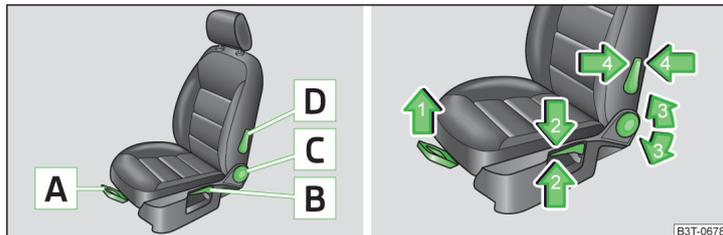

Fig. 66 Controls / setting
- Pull the lever **A** » Fig. 66 in the direction of the arrow 1 and push the seat in the required direction.
- Again push/pull the lever **B** » Fig. 66 in the direction of one of the arrows 2.
- Relieve any pressure from the seat backrest (do not lean on it) and turn the handwheel **C** » Fig. 66 in the direction of the arrow 3.
- Push the lever **D** » Fig. 66 in the direction of one of the arrows 4.